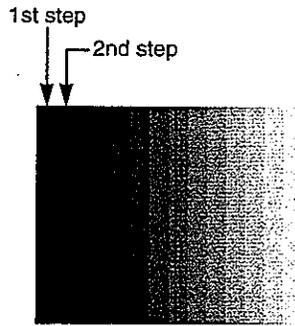

Fig.4-5 16 step gray scale
2. Use the XGA VESA(60) timing signal to input a 0.7Vpp green primary signal and measure the luminance at the center of the image. Suppose the reading is "A".
4. Use the XGA VESA(60) timing signal to input a 0.21Vpp green primary signal. Adjust the luminance with SUB-BRIGHT - W to  $A \times 0.09 \pm 10$  [lx].
5. Use the XGA VESA(60) timing signal to input a 0.7Vpp green primary signal. Adjust the luminance with SUB-CONTRAST - W to  $A \times 0.95 \pm 20$  [lx].
7. Use the XGA VESA(60) timing signal to input a 0.0Vp-p black pattern. Adjust the luminance with DAC\_P - BLACK2-POSI - W to  $A \times 0.009 \begin{matrix} +1 \\ -0 \end{matrix}$  [lx].
8. Use the XGA VESA(60) timing signal to input 0.7Vpp 16 step gray scale signal. See the two darkest steps if they can be distinguished. Use DAC\_P - BLACD2-POSI - G in order to make a little different luminance between 1st step and 2nd step by visual check. (See Fig.4-5.)
- b. Adjust DAC\_P - BLACK2 POSI - B so that the brightness between 1st and 2nd step is different slightly. (See Fig. 4-5.)
- d. Adjust DAC\_P - BLACK2 POSI - R so that the brightness between 1st and 2nd step is different slightly. (See Fig. 4-5.)